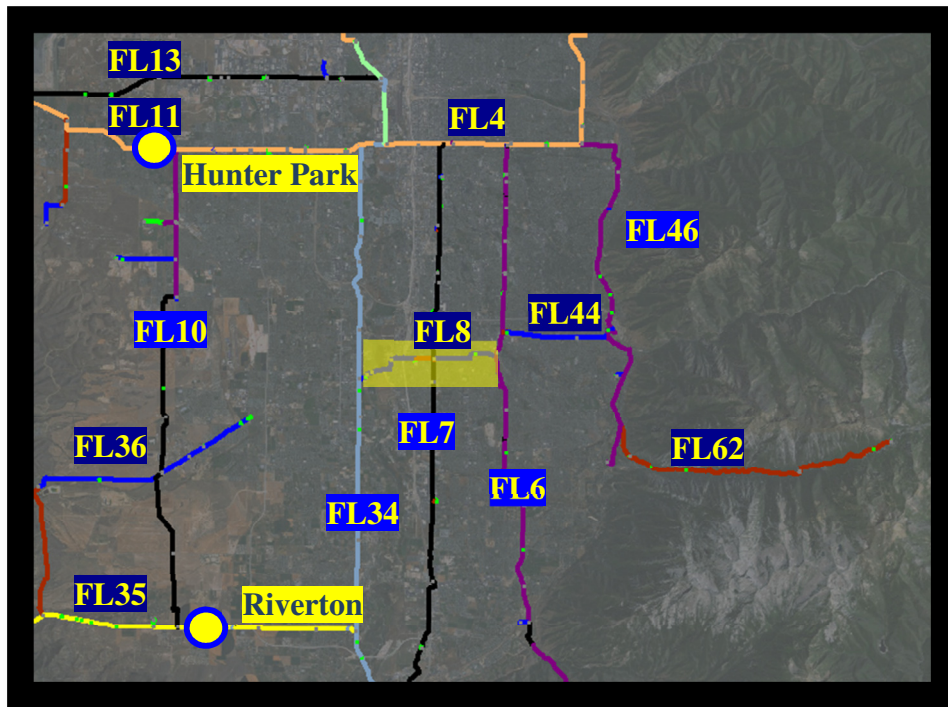

Figure 1: Feeder Line 8
Feeder Line 8 (FL8) is scheduled for replacement and will have segments replaced as needed. This analysis determines the appropriate diameter for the replacement. Figure 1 is a map of FL8 in relation to the surrounding high pressure (HP) system.